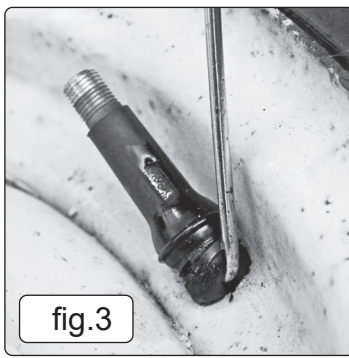

fig.3
- 4.1.4. Lift the valve hook tool and pull the tyre valve from the wheel rim (fig.3).